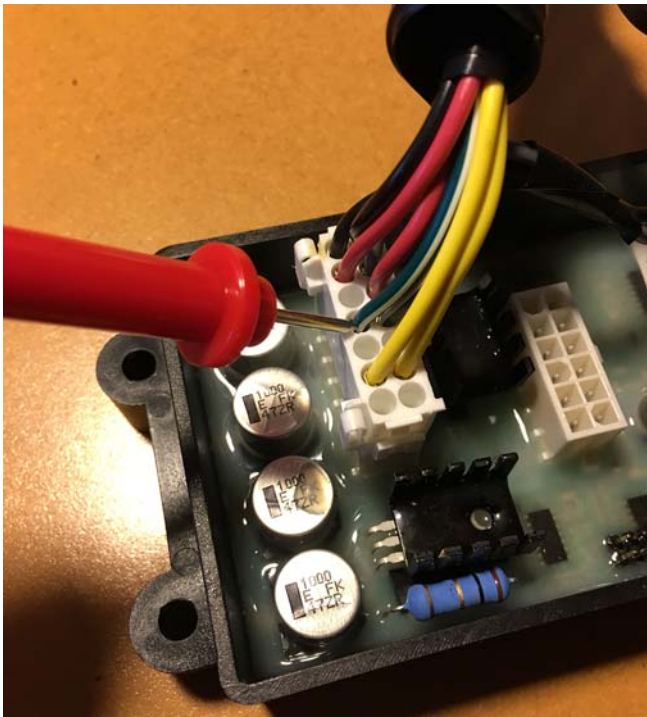

Figure 163
3. With a multi-meter, measure the V dc of the green / white wire. See Figure 163.